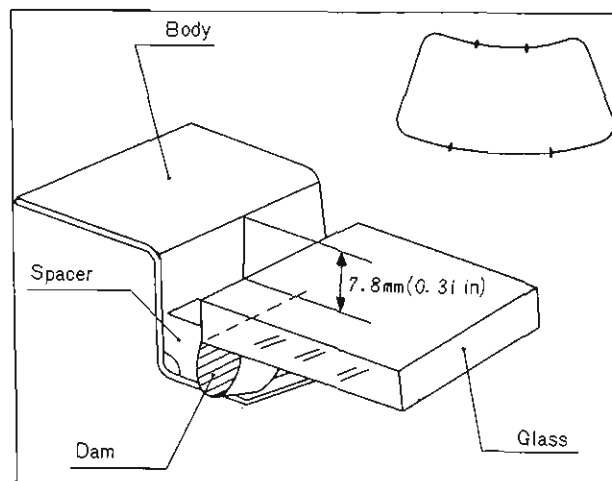

Fig. 14-34 Adjusting of clearance
2. When installing the glass, 7.8 mm (0.31 in) clearance should exist between the body and the glass. Check the clearance at the four portions shown in Fig. 14-34.